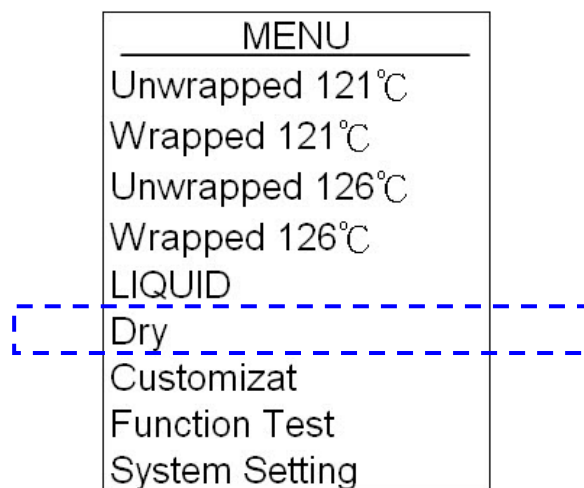

Figure 63
- C. Press  or  button to select Dry program cycle (Figure 63).